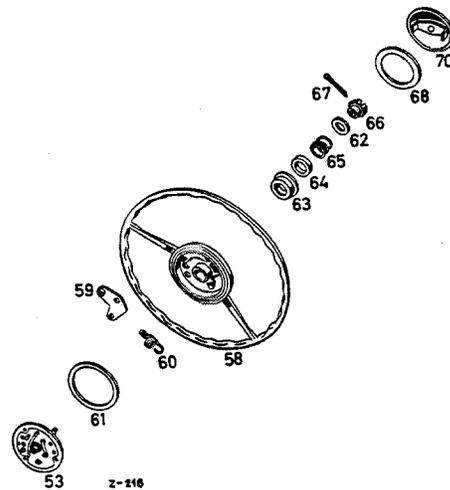

Fig. L 2/5
- Insert the brass washer (61) in the steering wheel and install the horn ring (58); when doing this, lift the notch plate (59) a little. Then install the contact cup (63), insulating plate (64), compression spring (65) and contact disk (62), and screw on the adjusting nut (66) (Fig. L 2/5).